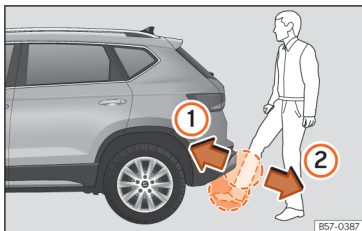

Fig. 89 Rear lid with sensor-controlled opening (Easy Open).
- With a brisk movement, bring your foot and lower leg as close as you can to the bumper. The lower part of the leg needs to be close to the upper sensor area and your foot must be close to the lower sensor area » **Fig. 89 ①**.
- Quickly remove your foot and lower leg from the sensor areas » **Fig. 89 ②**. The rear lid will be automatically opened.